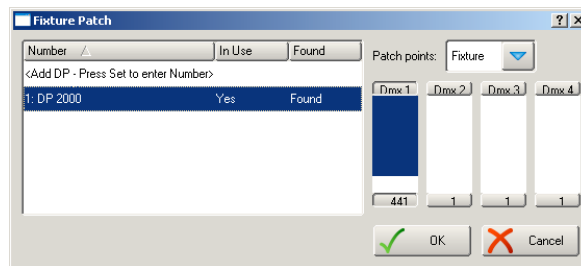

Figure 14.6. The Fixture Patch window
2. Select the fixture by clicking on it, then select Patch@ to open the Fixture Patch window. See Figure 14.6, "The Fixture Patch window".